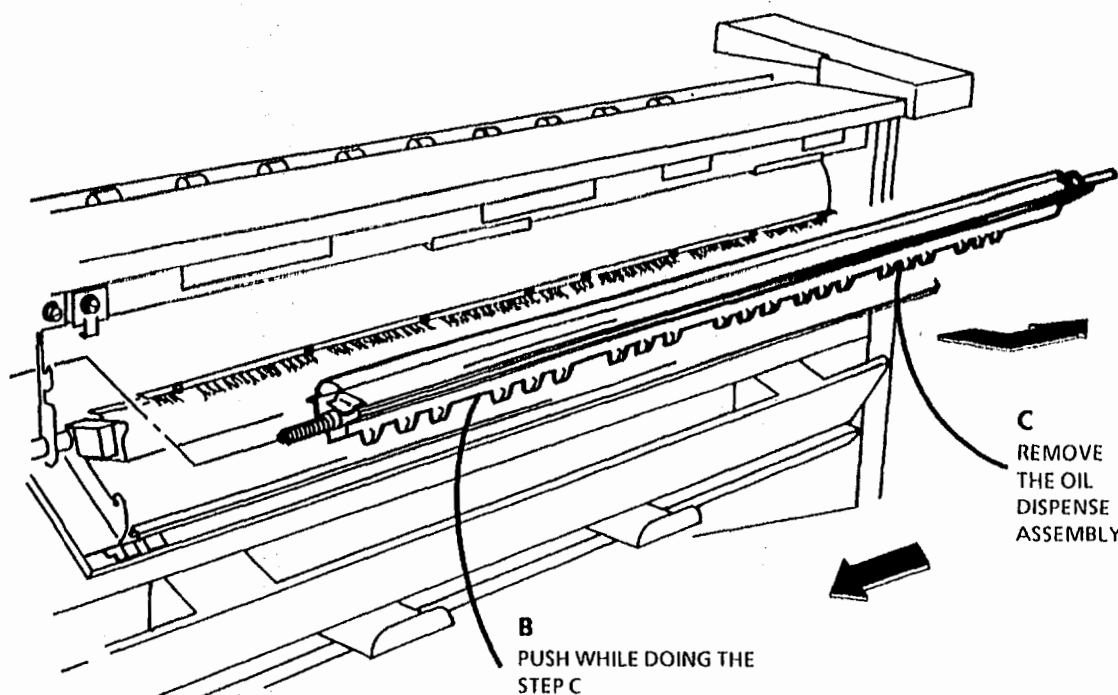

Figure 1. Remove the Oil Dispense Assembly
1. (Figure 1): Remove the oil dispense assembly.